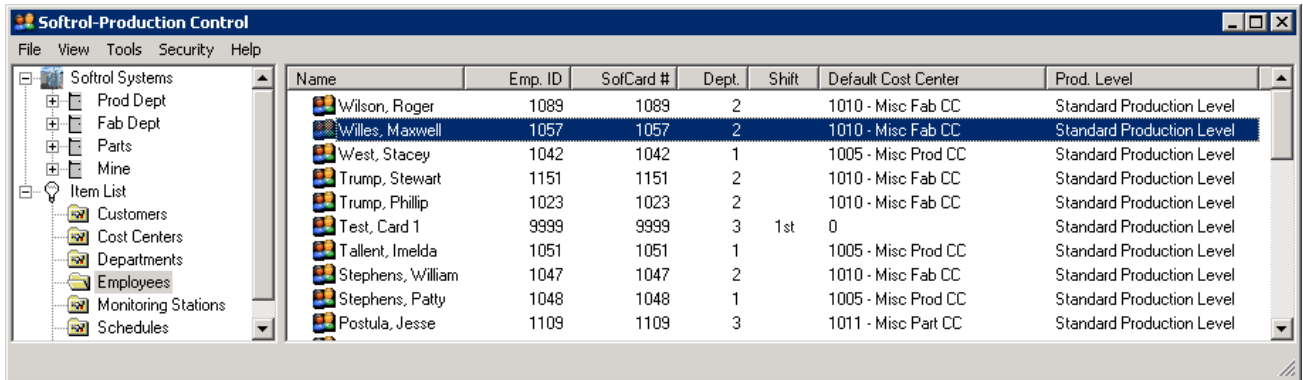
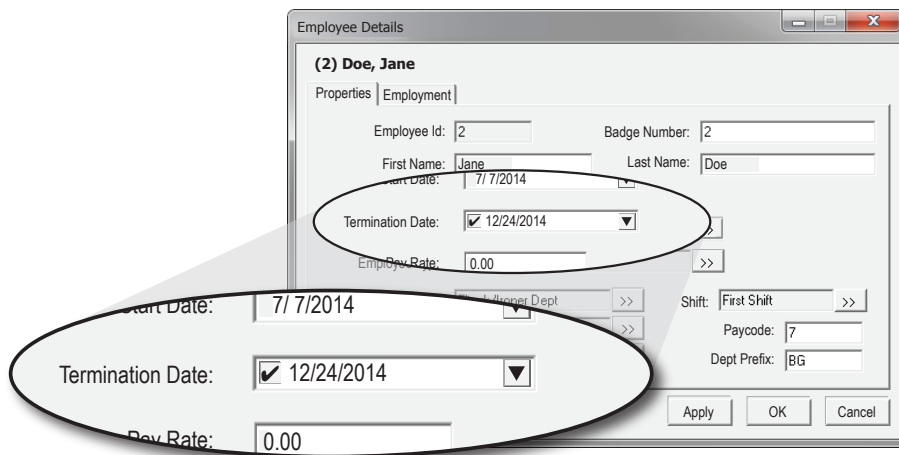

Figure 36. Setup: Select an employee.
Figure 37. Employee Details Dialog: **Employment** tab terminate an employee.
2. Double-click an employee record in the list on the right (see Figure 36) to open the *Employee Details* dialog (see Figure 37).
2. Click the down arrow to open the calendar tool to set a different date if needed (see Figure 37).